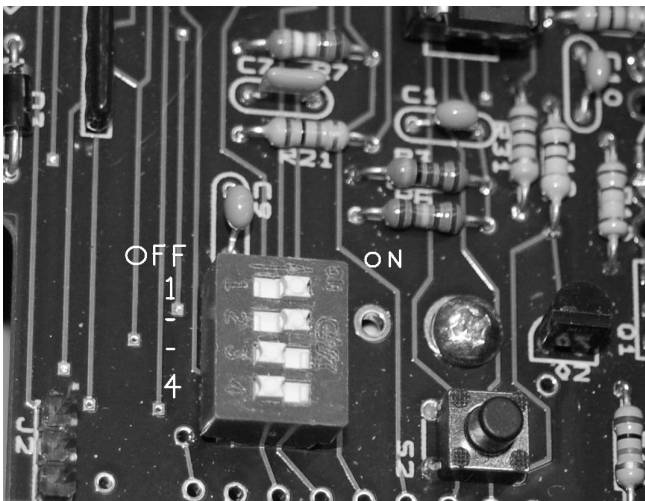

Figure 1
- Refer to the description of Modes or the Switch Setting Chart and Figure 1.